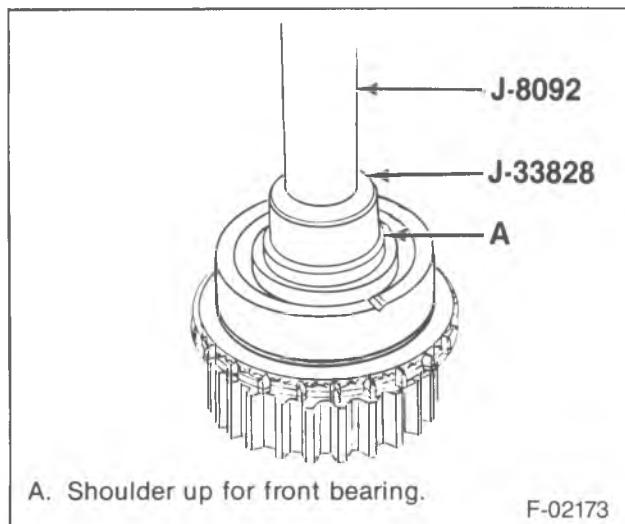

Figure 20—Drive Sprocket Front Bearing Installation
1. Front drive sprocket bearing (31) into the sprocket (32), using J 33828 and J 8092 (figure 20).